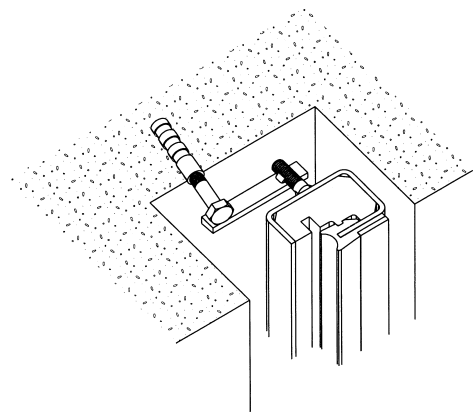

Fig. 10
- Depending on size and weight of sluice gate, 2-3 dowels per side should be set into the recess and bolts be inserted (Fig.10).
- Connect anchor and dowel bolts in the recess with a bar profile by welding acc. Fig. 10.